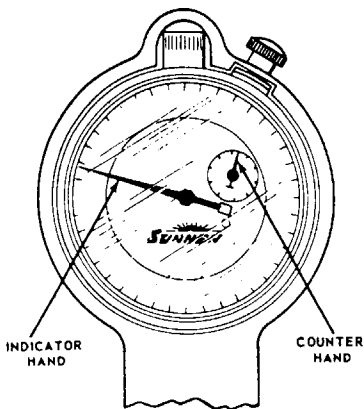

FIGURE 8
4. See Figure 8. Holding Indicator Housing in one hand and Gaging Head in the other, slide Indicator Housing away from Sleeve Assembly. Indicator Hand will move to the 9 o'clock position (its maximum counter-clockwise position).